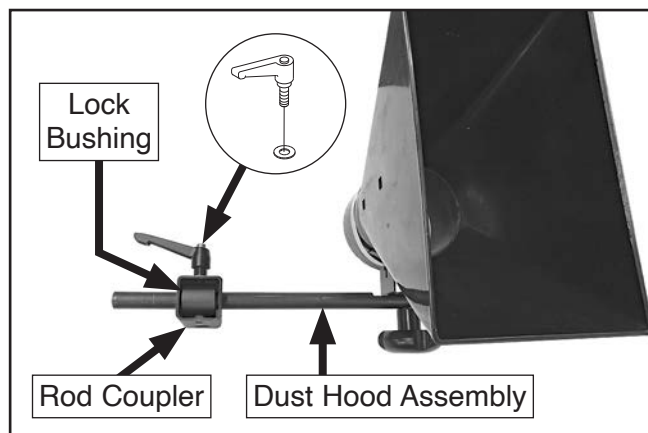

Figure 25. Dust hood assembled.
13. Install dust hood in hose clamp and tighten hose clamp until secure (see **Figure 25**).
14. Install (1) lock bushing into rod coupler and align bushing holes with large holes, then insert dust hood assembly through bushing (see **Figure 25**).
15. Install (1) lock lever with flat washer in small hole on rod coupler and bushing, then tighten to secure (see **Figure 25**).